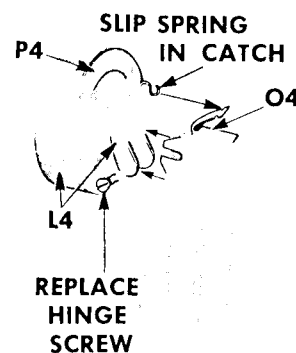

Fig. 61. Replacing
1. Insert open end of holder body **O4**, Fig. 61 into hinge plate and cover **L4**.
2. Replace and securely tighten hinge screw as instructed in Fig. 61.
3. Slip end of spring into catch on holder body **O4**, as instructed in Fig. 61.
4. Place gasket **P4**, Fig. 61 on hinge plate and cover **L4**.
10. Check the entire assembly to make certain that the holder body **O4**, **Fig. 61** hinges freely under the needle bar crank.